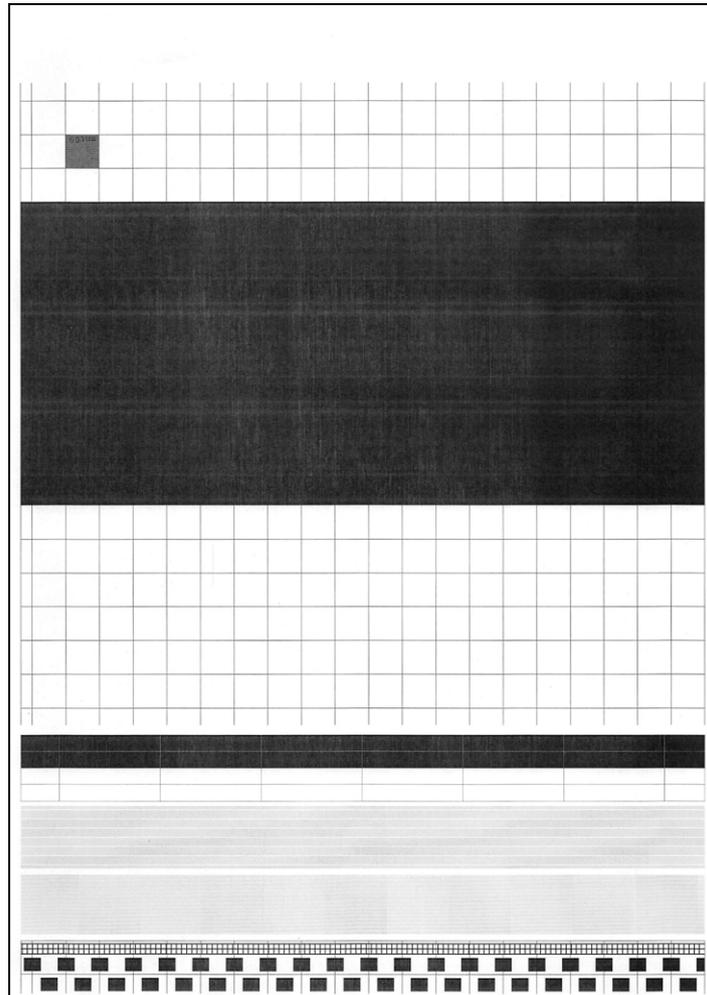

Fig. 5-1
- This function is used to print a sheet of monochrome test pattern. (See Fig. 5-1 below.)